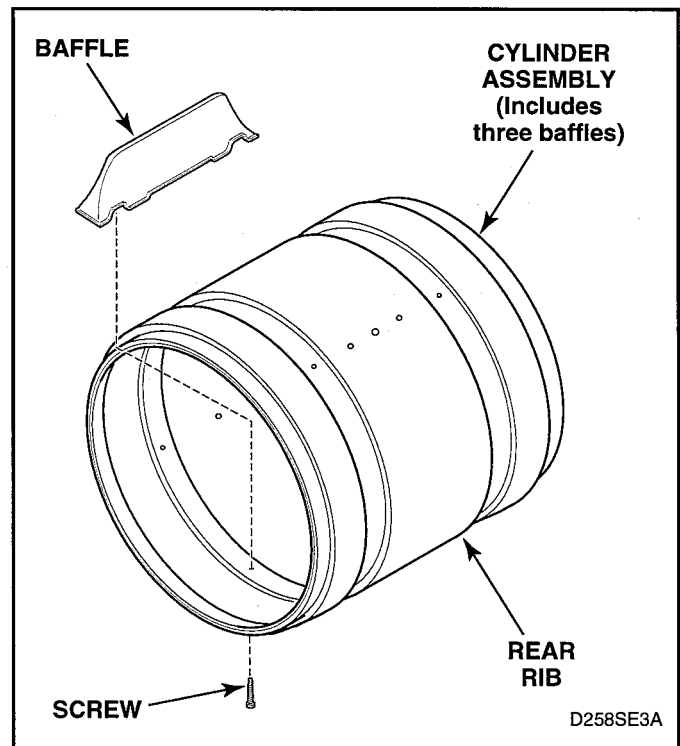

Figure 5-26
- Baffles – Remove screws holding baffles to cylinder. See figure 5-26.